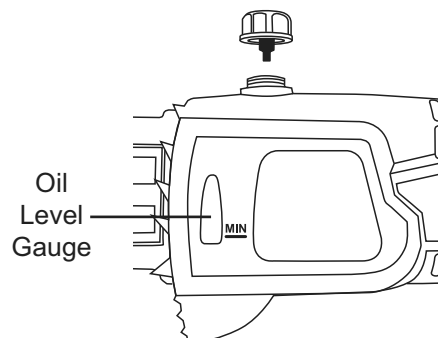

Figure 8
1. Set Pole Saw down with the Oil Tank Cap (13) facing upward.
3. The oil tank holds 110ml lubrication oil, which will lubricate the chain for 20-25 minutes of cutting. The oil tank level can be checked by way of the oil level gauge. See Figure 8, left.